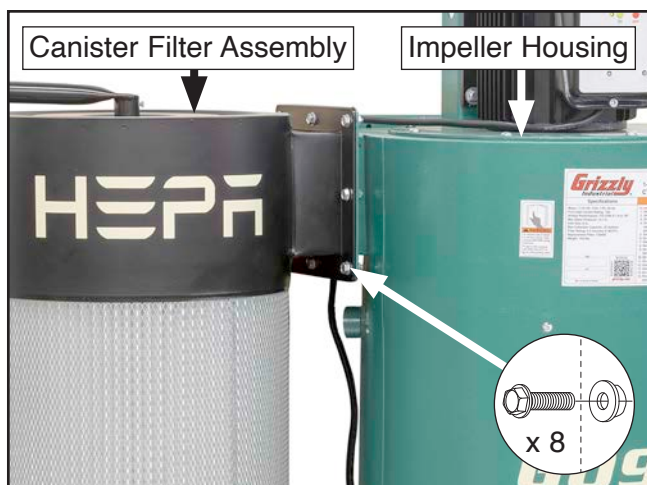

Figure 15. Canister filter assembly attached to impeller housing.
6. With help from an assistant, or hoist, lift canister filter assembly and secure to impeller housing using (8) $\frac{5}{16}$ "-18 x $\frac{3}{4}$ " flange bolts and (8) $\frac{5}{16}$ "-18 flange nuts (see **Figure 15**).